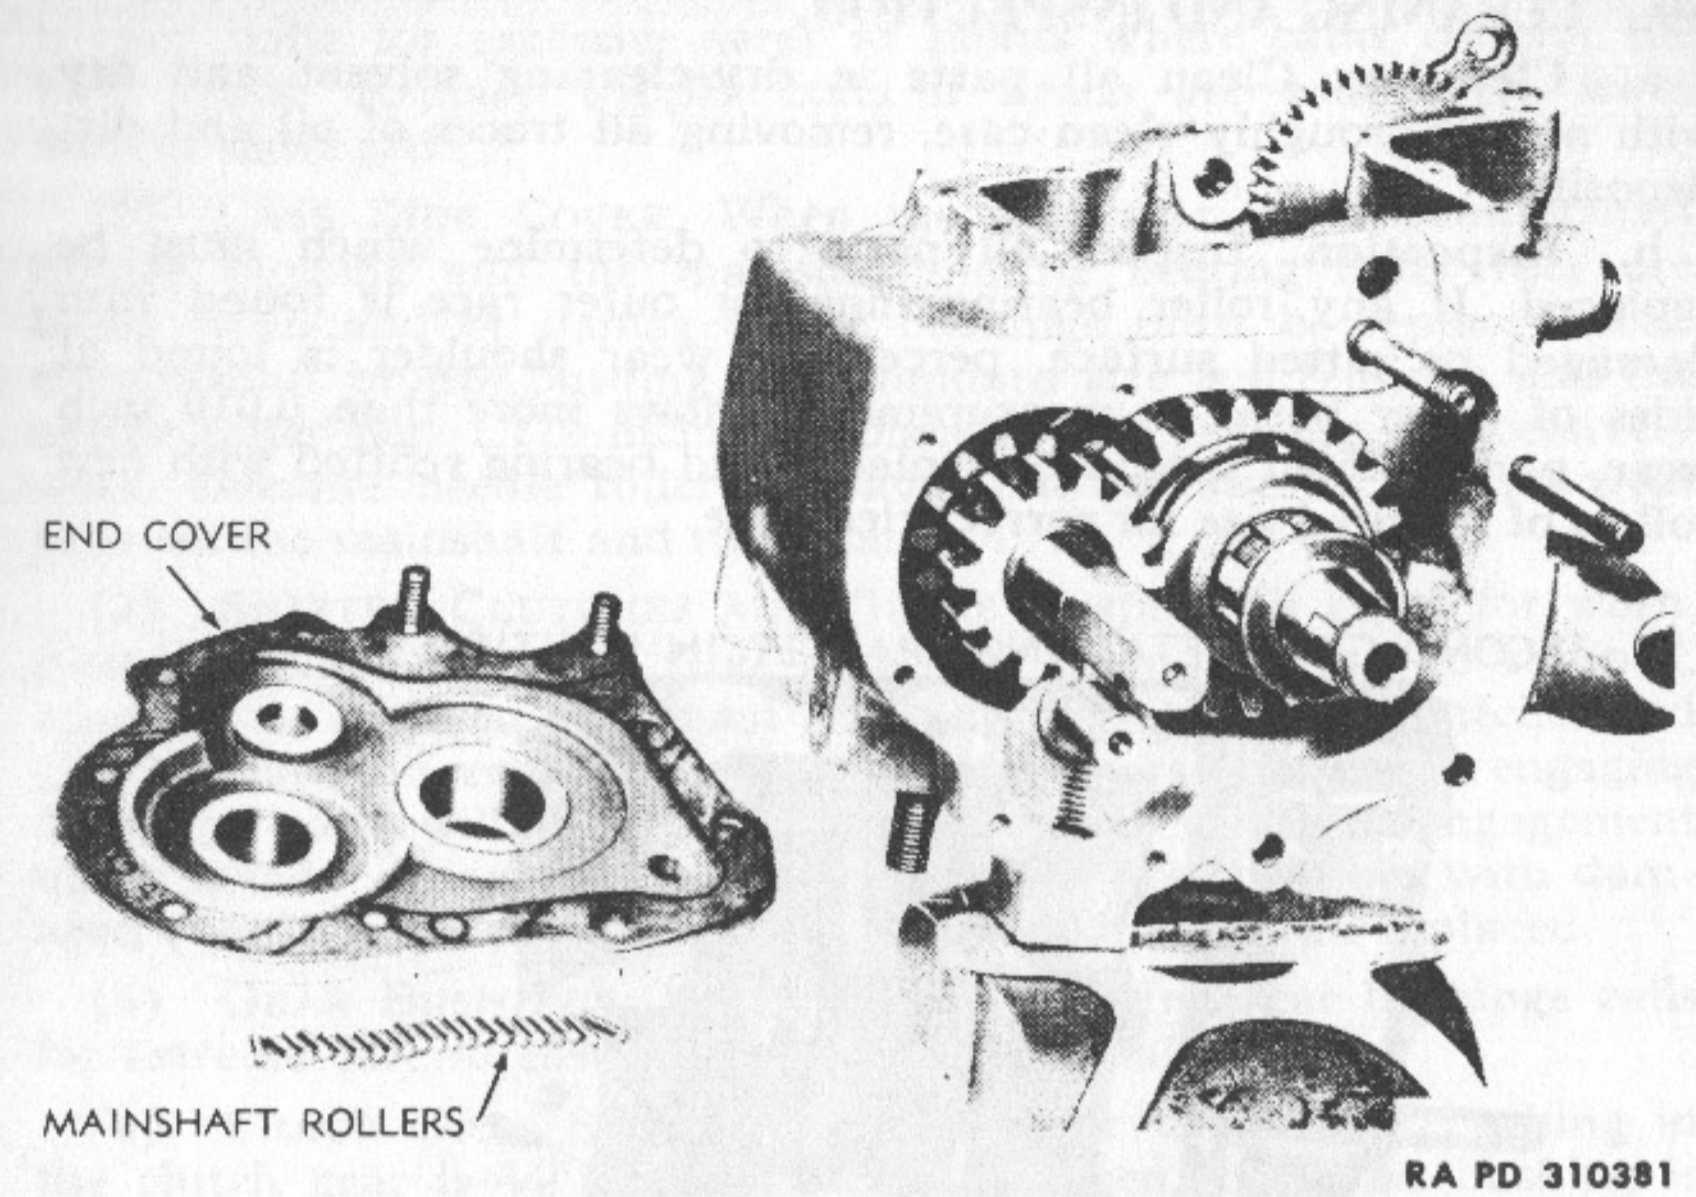

Figure 97—Gear Case End Cover Removed
(9) **REMOVE TRANSMISSION CASE SIDE COVER (fig. 97).** Remove the five screws and two stud nuts which secure side cover to case. Free the cover from case by tapping around edge. At the time cover is removed, the mainshaft needle rollers (21 in number) will probably fall out of position. Keep needle rollers in a container and identify them. With the cover removed, gears, shafts, and bearings can now be removed from open side of case.